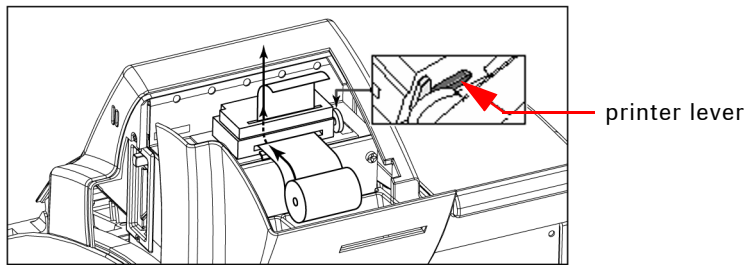

Fig. 22
- Make sure that the printer lever is in the "down" position (see Fig. 22).